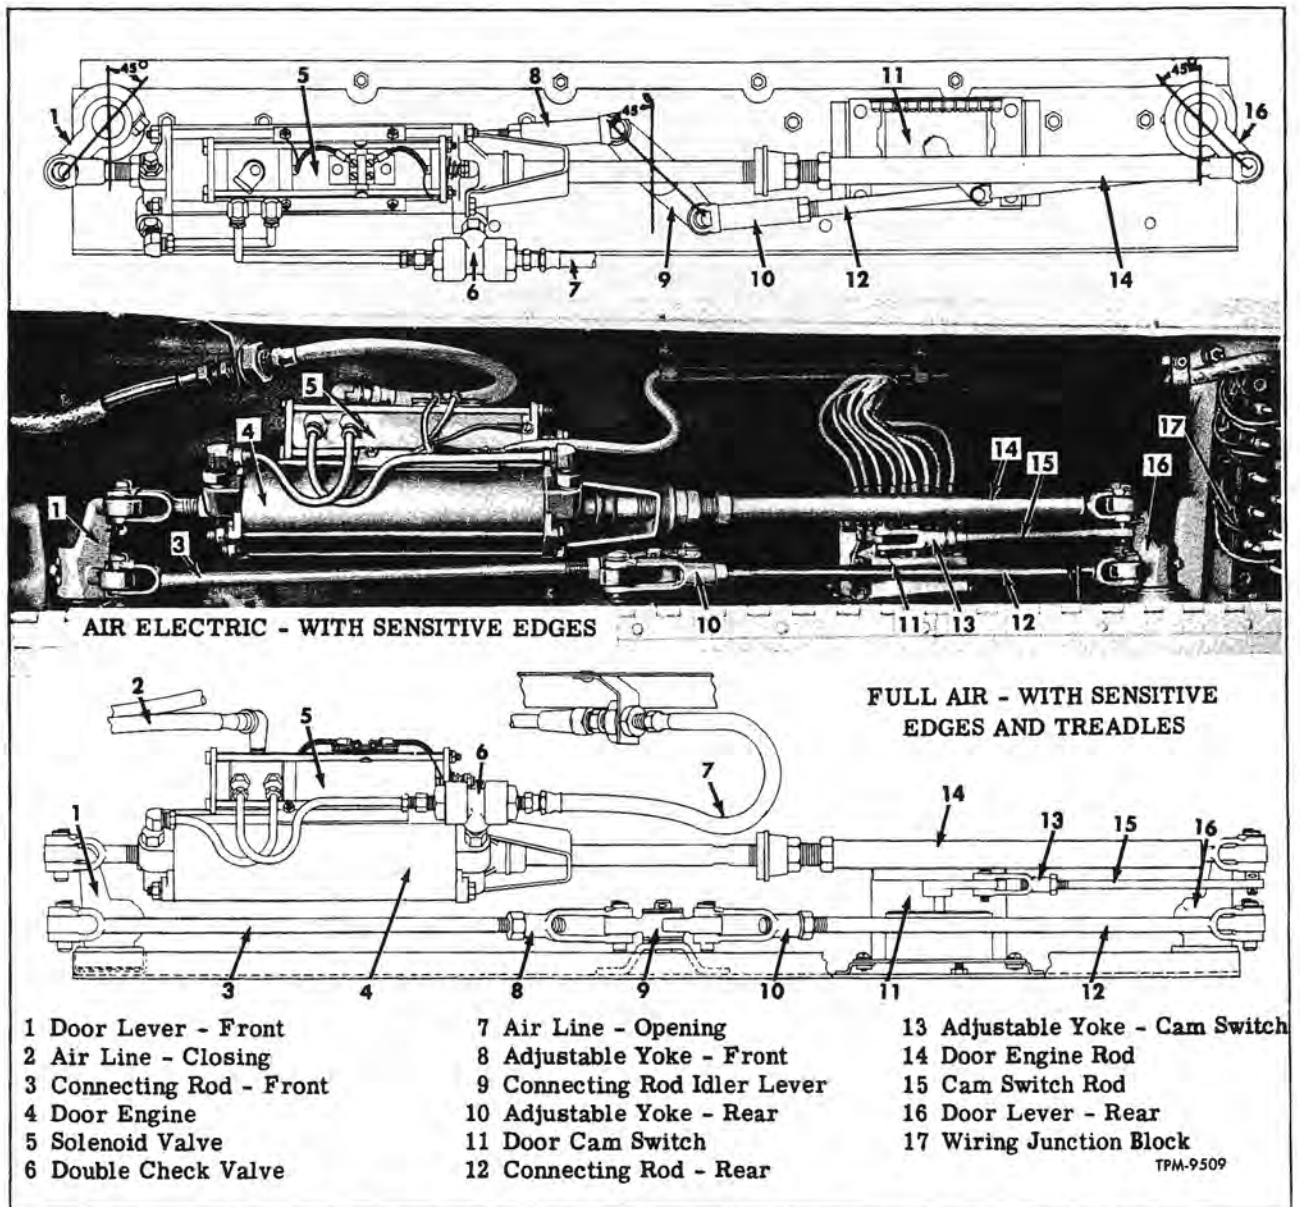

Figure 18—Four-Leaf Folding Rear Door and Linkage
Following pages contain information on doors and controls available as special equipment. As special equipment, many coaches are equipped with outward folding four leaf rear doors, sometimes called "jack-knife type." Controls for this type door are illustrated in figure 18.
viously covered in this section, that is, each is controlled by the operator and use "full air" or "Air-electric." Typical air-electric door operating mechanism is shown in figure 18.
2. Check angle of front and rear door levers to be sure they are set at  $45^{\circ}$  angle (fig. 18). If necessary, loosen clamp bolt and reset lever to proper angle and re-tighten clamp bolt to 20-25 foot-pounds.